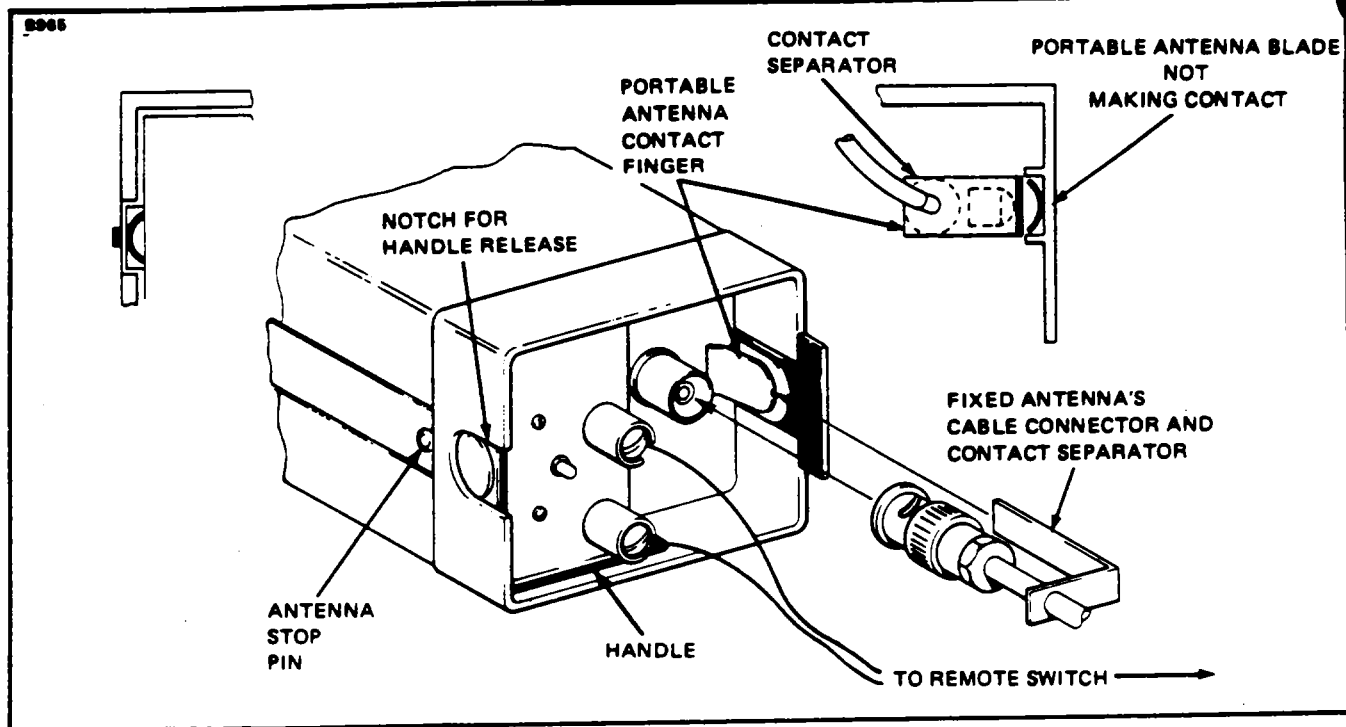

Figure 23-3. ELT Using Fixed Aircraft Antenna (Narco)
13. Connect the antenna coaxial cable to the ELT and ensure that the contact separator is inserted between the antenna contact finger and the portable antenna. (Ref. Fig. 23-3.)